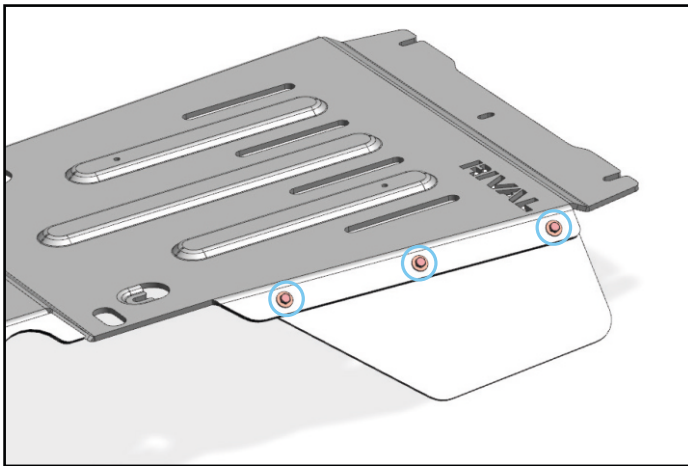

Fig.1
1. Secure the flap (item 2) to the transmission and transfer case skid plate (item 1) using M6x25 bolts (item C) and M6 flat washers (item F)(fig.1).